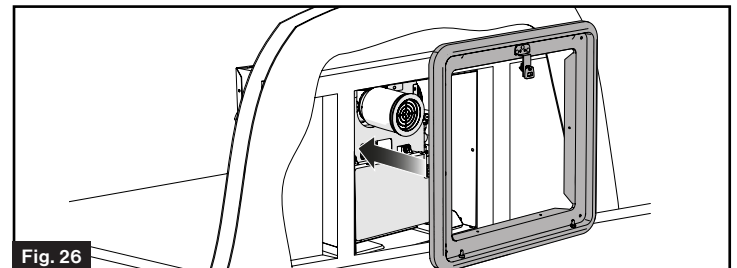

Fig. 26
4. Position the door frame into the water heater housing with the inner flanges located inside the water heater body, and press firmly against the sidewall. (Fig. 26)